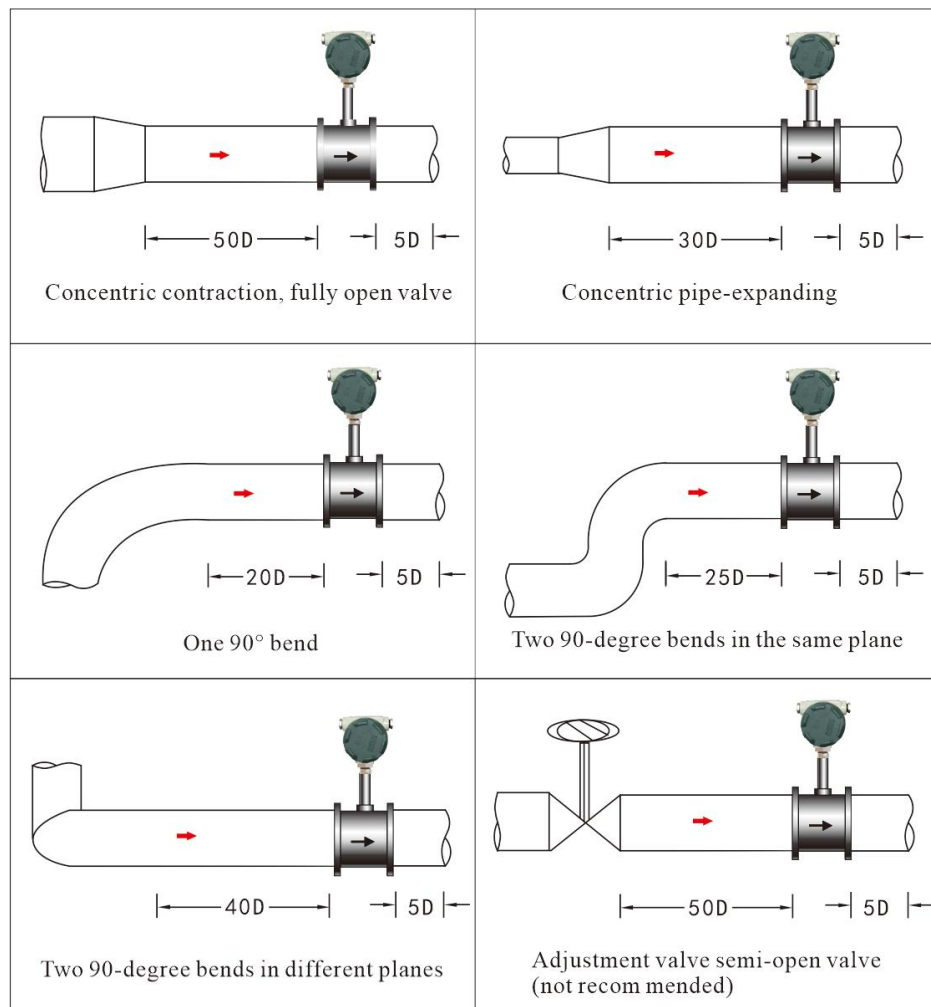

Fig.7 Reserved straight section diagram
6. There shall be sufficient straight pipe sections on the upstream and downstream sides of the sensor. Please install them as required in Tab. 5 and Fig. 7 (The adjustment valve shall be installed downstream of the sensor as far as possible).